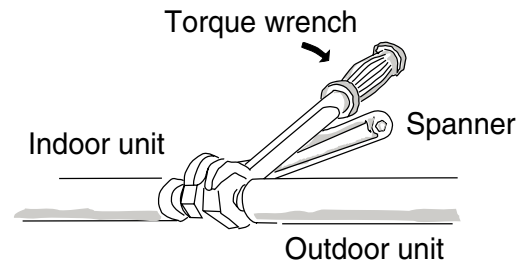

Fig.30
- Tightly connect the indoor side refrigerant tubing extended from the wall with the outdoor side tubing. (Fig. 30)